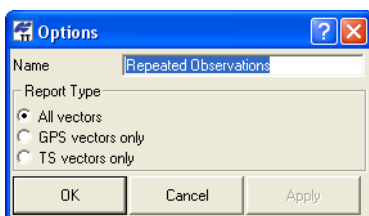

Figure 7-30. Item Options – Repeated Observations
- Repeated Observations – edit the name and select the report type for vectors, then click **OK** (Figure 7-30).